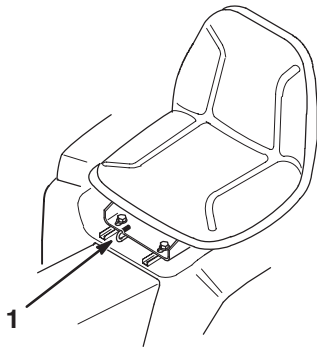

Figure 21
1. Move the adjustment lever sideways to unlock seat (Fig. 21).